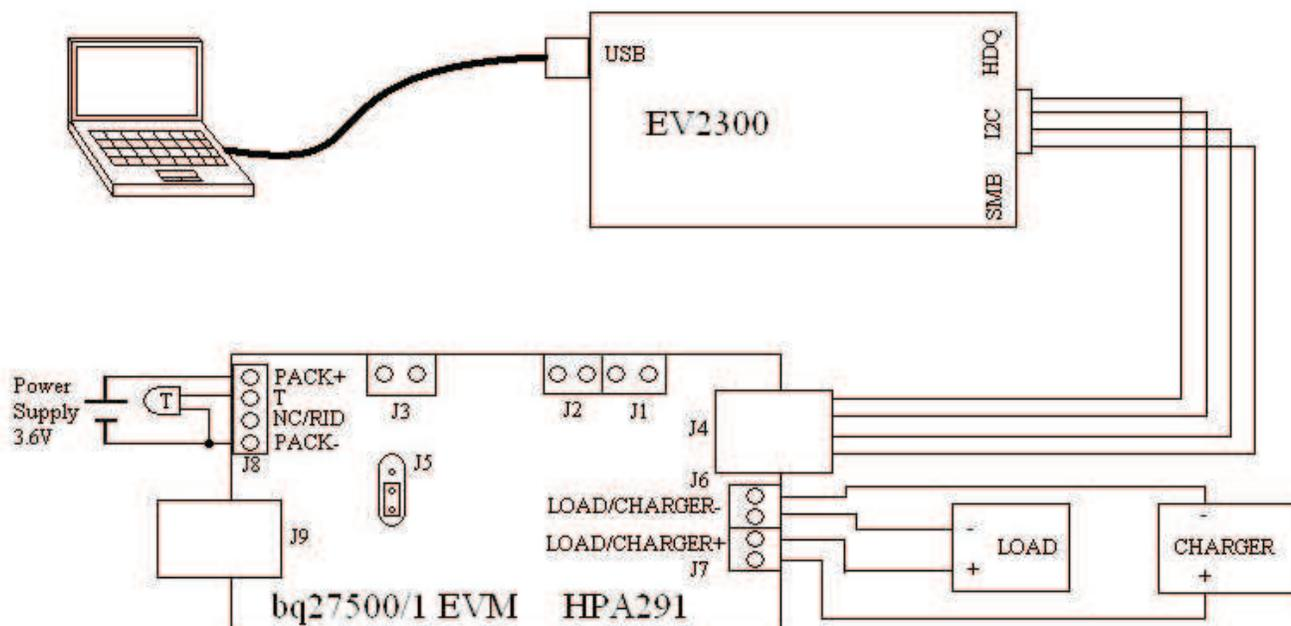

Figure 1. Basic EVM Setup
Refer to Figure 1 for the following instructions.
3. Ensure that jumper in J5 of HPA291 board is connected at the bottom position as shown in Figure 1.